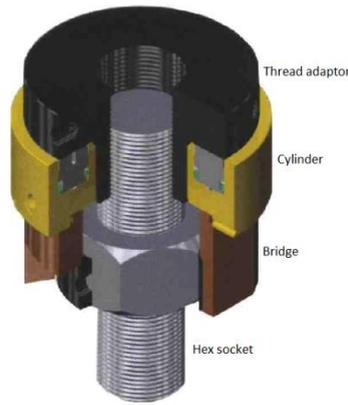

Figure 2 – Bolt Tensioner Assembly
- 5.2.5 Check that the studs and nuts have been assembled correctly as per Figure 2. Note: The thread projection of the stud above the top of the nut should be sufficient to allow the tensioning tool to engage the stud a minimum of one stud diameter, e.g. if a DBT-35 is used to pull a M36*4 bolt, a minimum of 36mm thread projection of the stud would need to be preserved above the top of the nut.